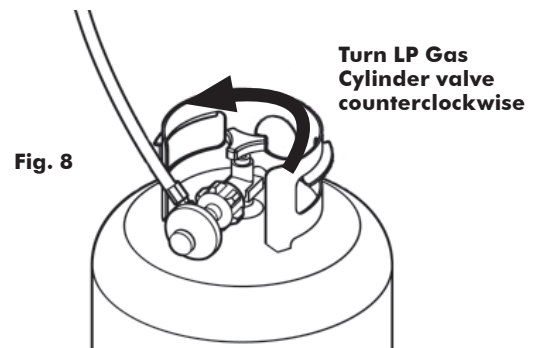

Fig. 8
3. Turn the LP Gas Cylinder valve open counterclockwise until it stops. (Fig. 8)
3. Turn the LP Gas Cylinder valve open counterclockwise until it stops. (Fig. 8- P.18)
3. Turn the LP Gas Cylinder valve open counterclockwise until it stops. (Fig. 8, P. 18)